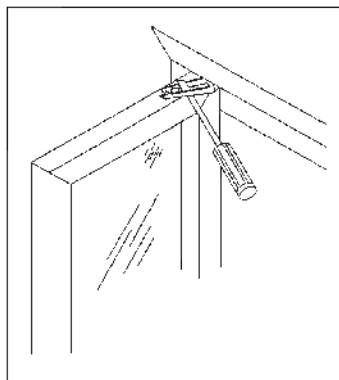

Figure 16
- a. Open the door to just before the detent and insert a screw driver between the legs of the hold open spring, Refer to Figure 16.